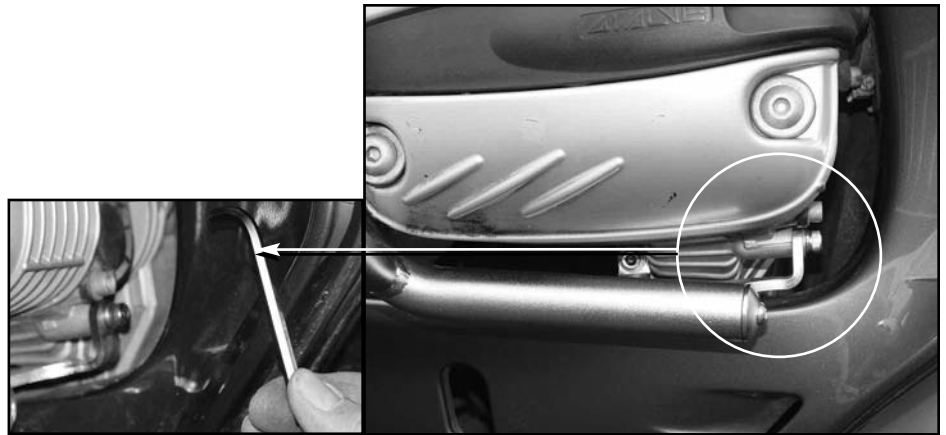

Figure 6
1. Follow installation procedure for Right Side except Step Three on **Left Side** requires the **Shortened 5mm Hex Key** to secure the Screw/Washer Assembly. **Figure 6**